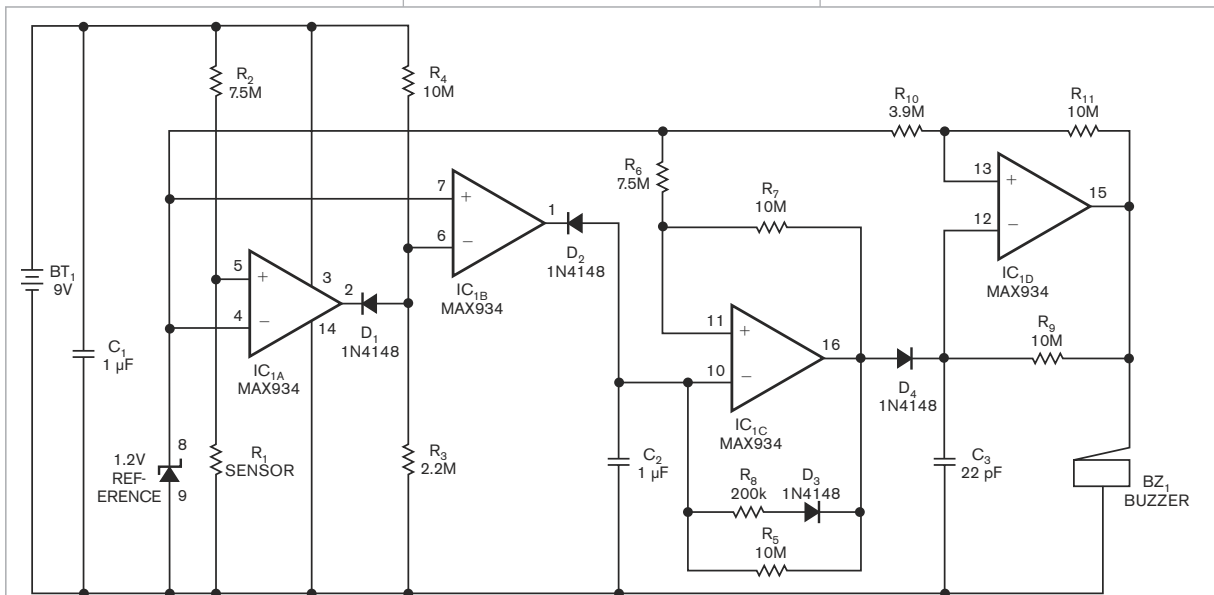

Figure 1 IC_{1A} and IC_{1B} determine the conditions for sounding the buzzer, and IC_{1C} oscillates to provide the trigger for IC_{1D} .
▶ A previously published Design Idea describes a practical gadget that has the potential to save a lot with little investment (**Reference 1**). However, the circuit uses 120V line voltage and, as such, it is not that convenient for many applications. This Design Idea describes a portable water-leak detector that uses a common 9V battery for power (**Figure 1**). The circuit consumes less than 10 μA during detection mode, and a 9V alkaline battery has greater-than-500-mAhr capacitance. So one battery can last more than five years, which is equivalent to the battery’s shelf life. When the battery voltage drops below 6.5V, the detector beeps to indicate that it is time to change the battery.